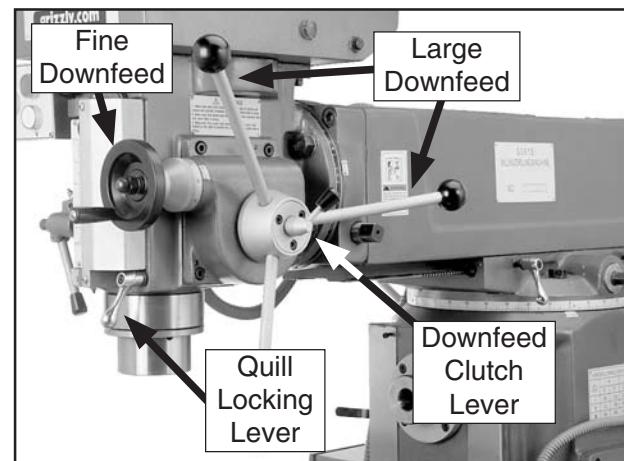

Figure 42. Large downfeed and fine downfeed controls.
1. Loosen the quill locking lever and the downfeed clutch lever (see **Figure 42**).
1. Loosen the quill locking lever (see **Figure 42**).